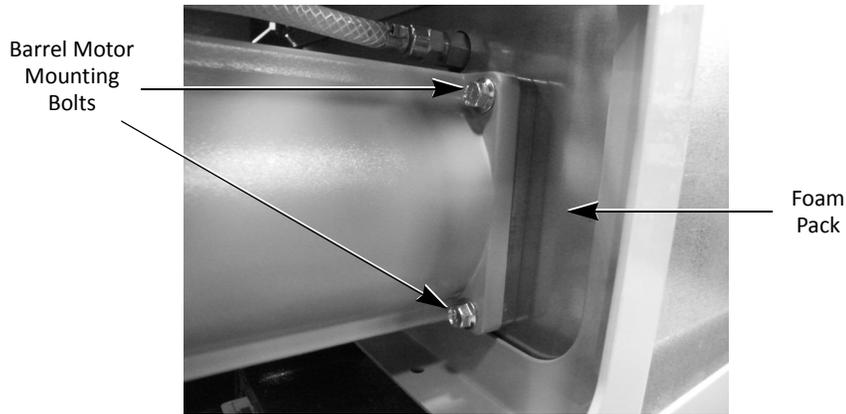

Figure 43. Side View of Motor Showing Two of the Four Mounting Bolts
The barrel motor does not require any special alignment when being replaced. It mounts on four (4) bolts. These bolts are screwed into threaded bosses in the foam pack barrel assembly, as shown in Figure 43. To replace a barrel motor, perform the procedure in Table 46.